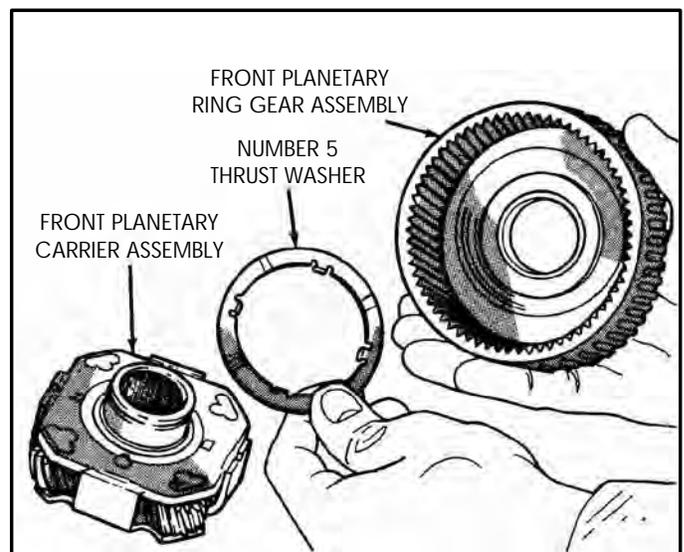

Figure 63
3. Remove planetary ring gear and the number 5 thrust washer, as shown in Figure 63.